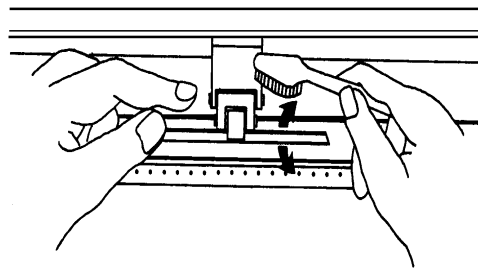

Figure 5-1
3. Use a bristle brush (a toothbrush is acceptable) to remove dust from the drum surface. Rotate the drum manually while cleaning. Refer to **Figure 5-1**